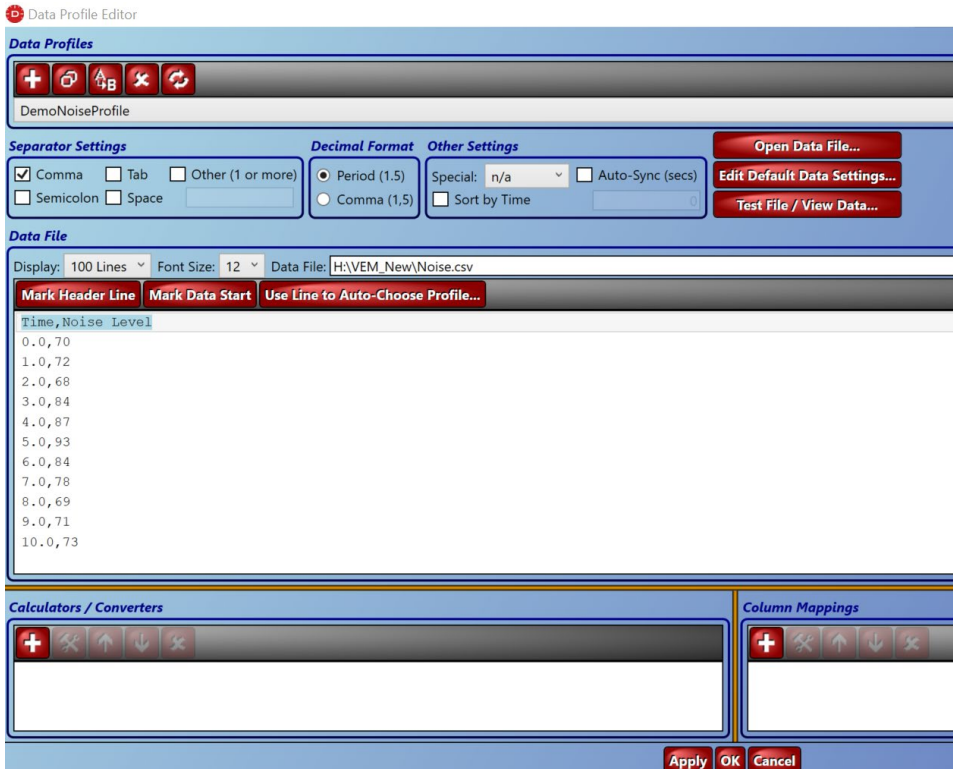

Figure 36 Data profile editor
2. At the top of the Data Profile Editor, you'll see Data Profiles and will be able to add a new data profile by clicking on the large plus sign. You'll be asked to name your profile and then add it. Then you will get the Data Profile Editor screen (Figure 36).